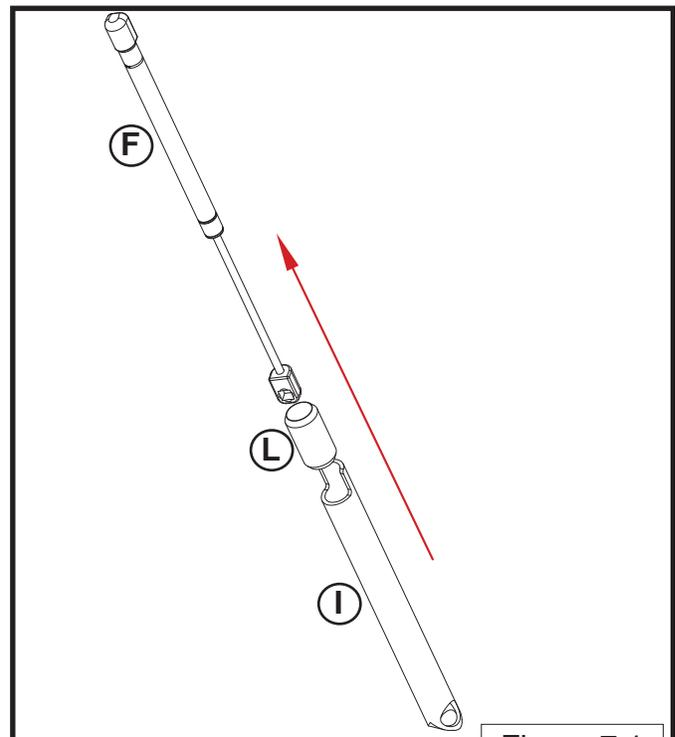

Figure 7.1
1. Position the Gas Spring Lock (I) and Sure Lock Sleeve (L) over the small rod end of the Gas Spring (F) with the tab of the lock on top (Figure 7.1)